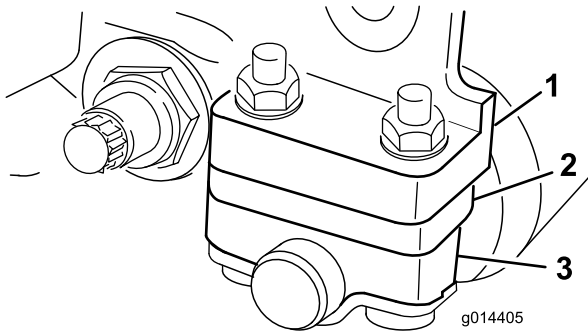

Figure 7
1. Adjust the rear roller brackets to the desired height-of-cut range by positioning the required amount of spacers below the sideplate-mounting flange (Figure 7) per the Height-of-Cut and Bedknife Selection Charts (page 10).